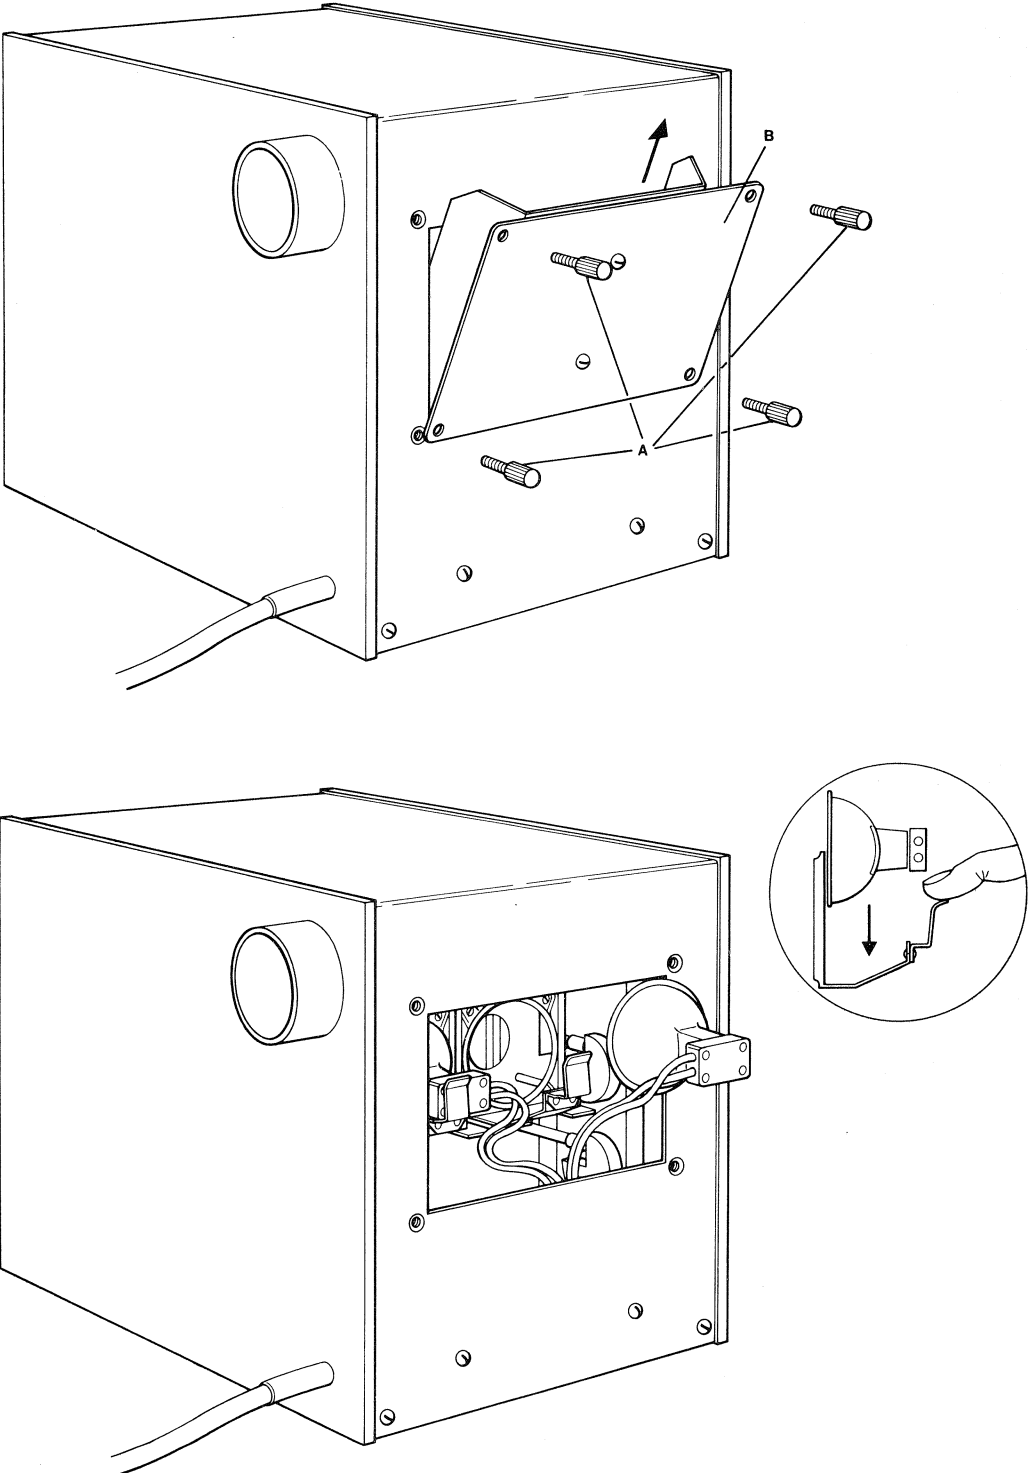

Figure 13
- 3.5.1 To fit the lamps, remove the four thumb screws "A" (Fig. 13) and lift the lamp cover "B" clear of the head. To insert a lamp into its socket, ease back the lampholder tension arm and push the lamp down until it is clamped in position. Repeat the operation for the second lamp and then replace the lamp cover and screws.